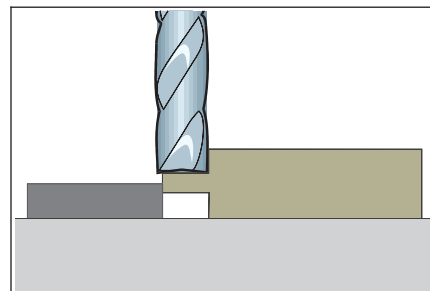

Figure 3 Machine a tongue onto both sides of replacement material.
6. Install an end mill into the chuck of the drill press. Machine a tongue onto both sides of the replacement piece. The dimensions of the tongue should match the size of the milled groove. (See Figure 3.)